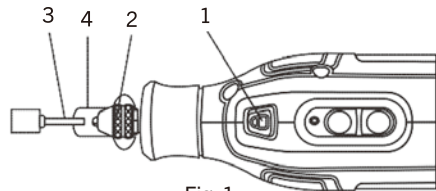
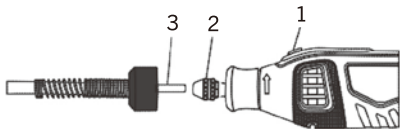

Fig. 1
Fig. 4
2. Depress the spindle lock button (1) and slowly turn the 3-jaw chuck collet nut (2) until the spindle lock button locks the spindle (Fig. 1).
3. While holding the spindle lock button down, turn the 3-jaw chuck collet nut counter clockwise until the 3-jaw chuck jaws open far enough to allow the accessory bit shank (3) to be inserted into the 3-jaw chuck.
- Lock the spindle using the spindle lock button (1) open the 3-jaw chuck (2) as shown in Fig. 4.
- Insert the drive shaft (3) into the 3-jaw chuck as far as it will go.
- Tighten the 3-jaw chuck onto the drive shaft as shown in Fig. 1.